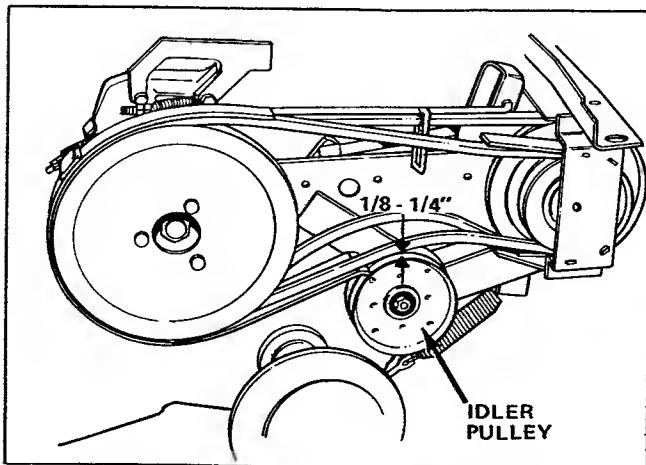

Figure 22. Idler Tension Adjustment
1. There should be $1/8-1/4$ inch clearance between the outside belt and the top edge of the idler pulley, when the belt is resting on the front and rear belt retainers. (See figure 22).